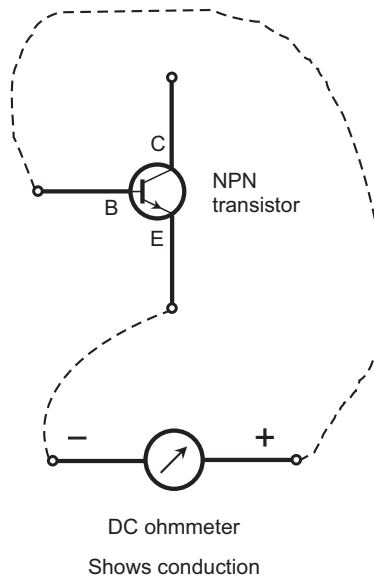

FIGURE 7-18 Electrons should flow from the emitter to the base.
The tests involve holding the meter probe tips up against the transistor leads in all six ways that it can be done. Your body resistance is high enough so that you should not have to wear gloves. Figures 7-18 through 7-23 show the connections and indicate the results you should see with a good NPN transistor. Moderate resistance on the order of a few ohms or tens of ohms (the exact value doesn't matter) indicates conduction. "Infinite" resistance indicates non-conduction.
1. Electrons should flow from the emitter to the base (Fig. 7-18).